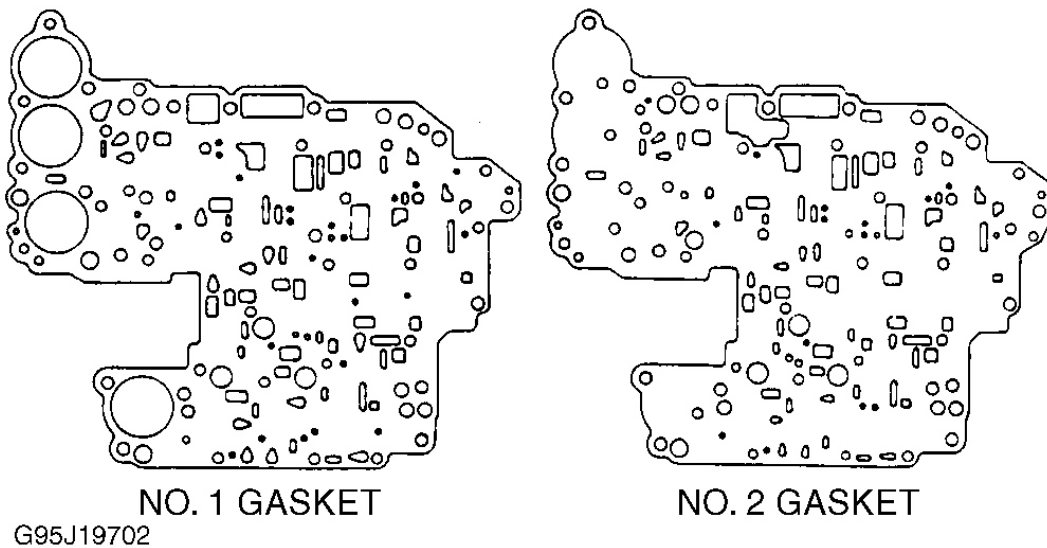

Fig. 68: Identifying Valve Body Gaskets (A-245E & A-246E)
1. Coat all components with ATF. To reassemble, reverse disassembly procedure. Position NEW No. 2 gasket, plate and NEW No. 1 gasket on lower valve body. Ensure gaskets are installed in correct locations. See **Fig. 68** .